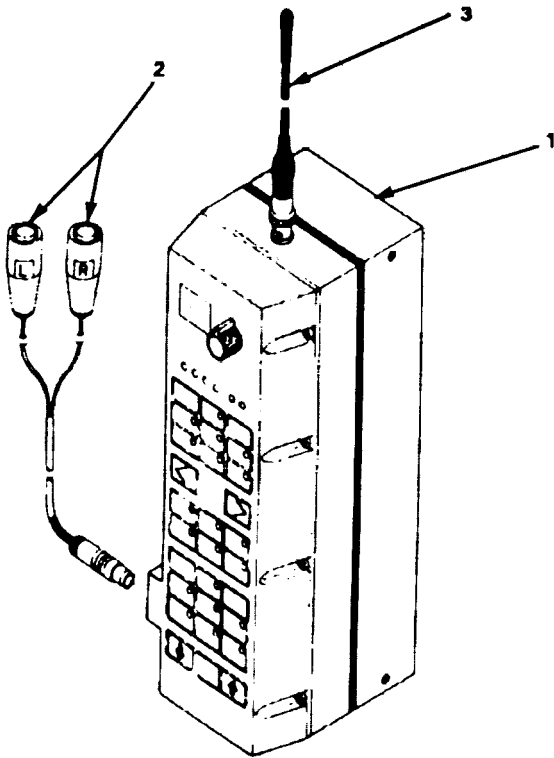

Figure 1-5. Transmitter/Controller
- d. Transmitter/Controller (T/C). (See Figure 1-5.) The T/C (1) is a portable, battery- powered radio which transmits RF energy in the 339 to 372 MHz UHF band. The T/C can be fitted(with an optional remote control switch assembly (2) to allow a parachutist carrying the T/C to control the parachute via the AGU. The T/C is supplied with a removable dipole antenna (3).